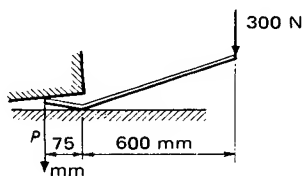

Fig. 2.44
1. In Fig. 2.44 a crowbar is being used to lift a heavy object. Find the force P which the crowbar applies to the object.